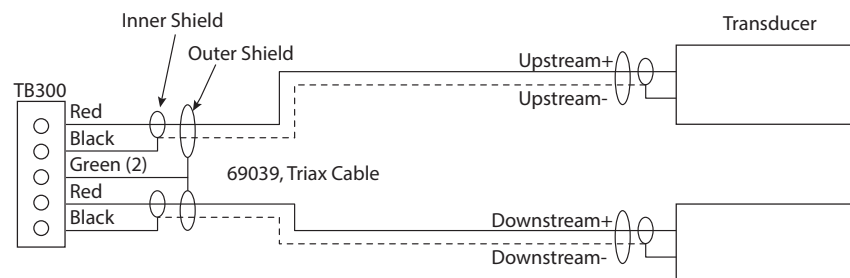

Figure 24: Upstream/downstream transducer
4. The terminals within the transmitter are screw-down barrier terminals. Connect the wires at the corresponding screw terminals in the transmitter. Observe upstream and downstream orientation and wire polarity. See *Figure 24*.